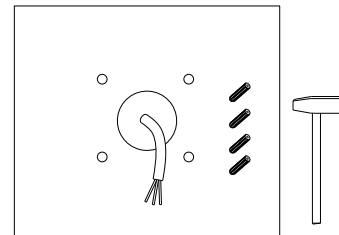

Figure 1-2
2. Fix rubber plugs into holes. (Figure 1-2)